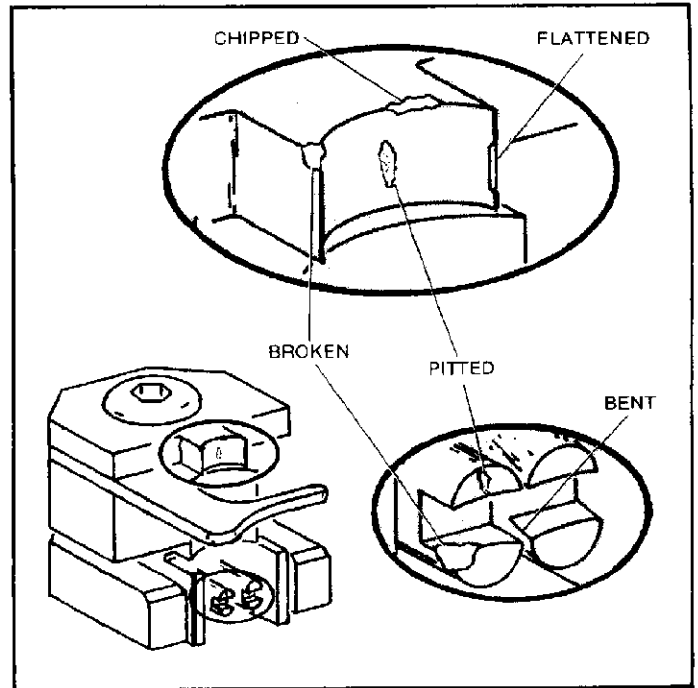

Figure 6
- (b) Visually inspect die closure surfaces for flattened, pitted, or chipped conditions. Although dies may gage within permissible limits, worn or damaged die closure surfaces are objectionable and can affect crimp quality. Examples of possible damage to die closure surfaces are shown in Figure 6.